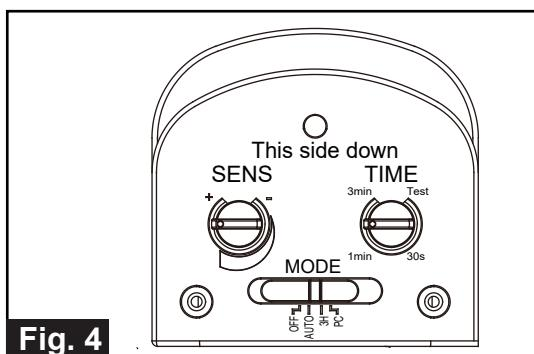

Fig. 4
- You can adjust the sensitivity of the motion sensor by using the "SENS" knob located on the right side of the bottom surface of the sensor. (See Fig. 4)
Choose a mode by sliding the switch on the bottom of the sensor of the fixture. (See Fig.4)